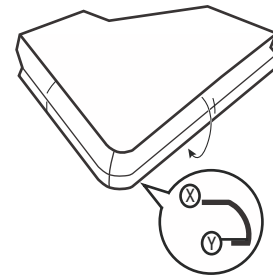

Figure 13. Apply adhesive promoter between X and Y
2. Apply adhesive promoter to the edges, starting about 1/2 inch from where the shape changes (see Reference X) and extending to the back side of the surface for at least 1/2 inch (see Reference Y). Allow the adhesive promoter to dry to improve adhesion and minimize shrinkage. See Figure 13, “Apply adhesive promoter between X and Y,” on page 12.